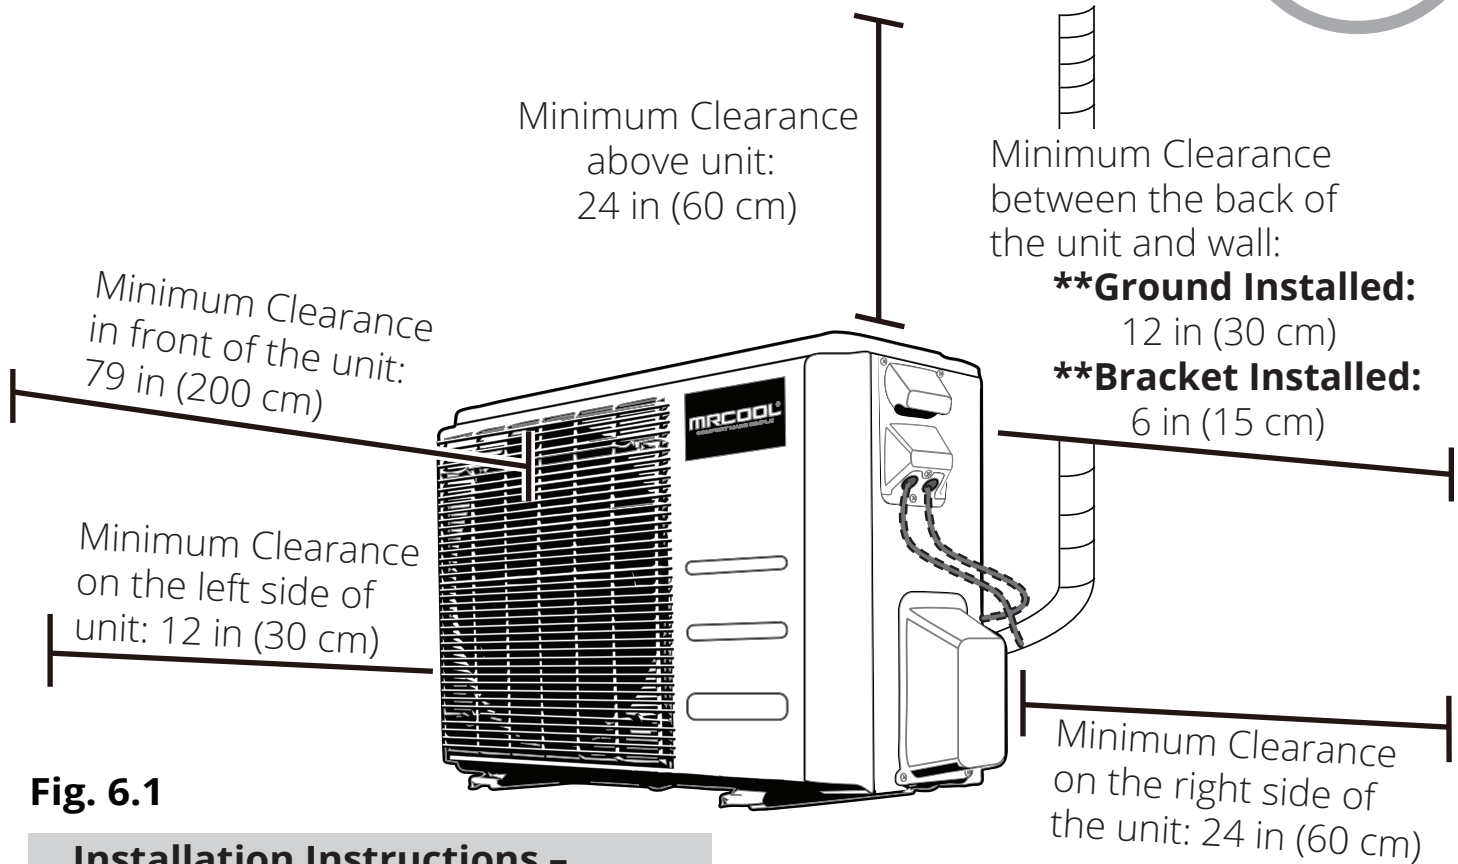

Fig. 6.1
- ☑ Meets all spatial requirements shown in Installation Space Requirements (Fig. 6.1)